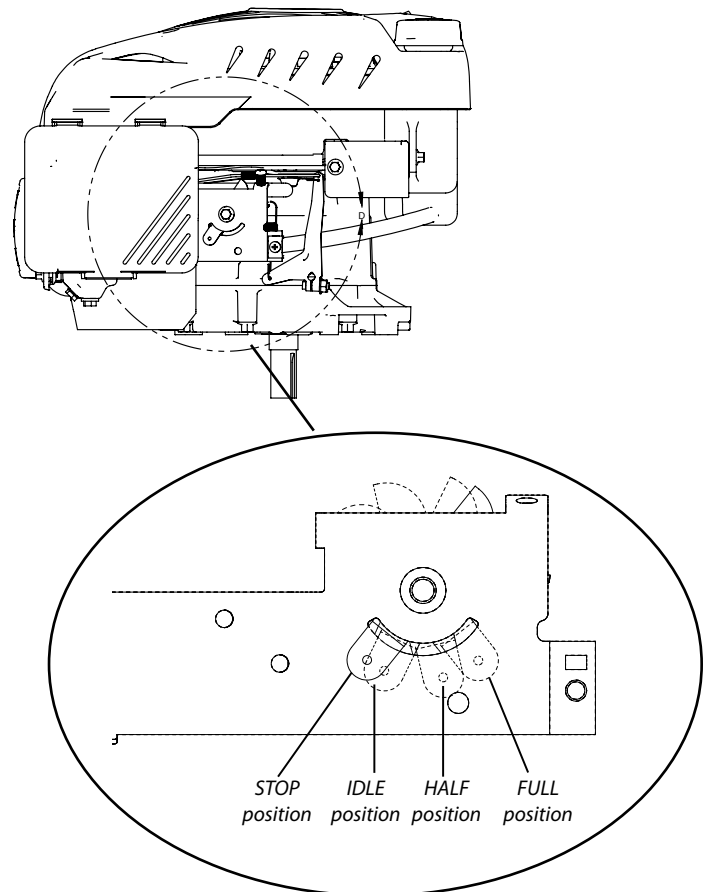

Figure 4: Throttle positions
5. Move throttle to "FULL" position. **SEE FIGURE 4.**
7. After engine begins operating, move throttle lever to "IDLE" position. **SEE FIGURE 4.** Run engine for 30 to 45 seconds at "IDLE" position until engine warms up.
8. After starting the engine, slowly move the throttle control lever from the "IDLE" position to desired speed as the engine warms up. **SEE FIGURE 4.**
2. Move throttle to "STOP" position. **SEE FIGURE 4.**